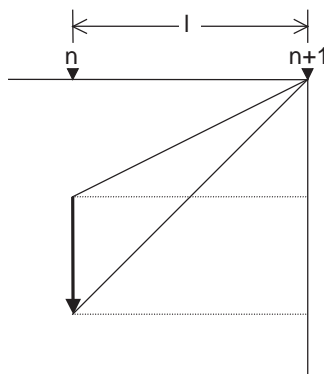

Fig. 2.3
(3) Fig. 2.3 contains a machine position that is placed in the negative direction with respect to the reference position. Assume that feed from division point n+1 to n by the division interval is executed. In this case, the following value is defined as the compensation amount: